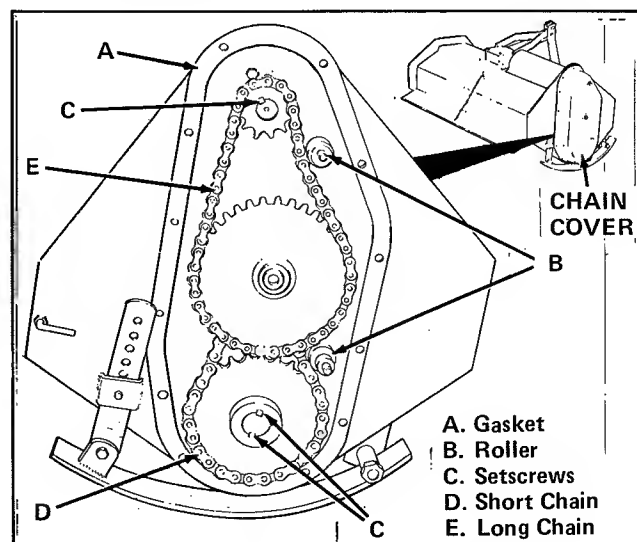

Figure 11. Chain Replacement
1. Remove three nuts, one with grease fitting, from center of chain cover (figure 11).